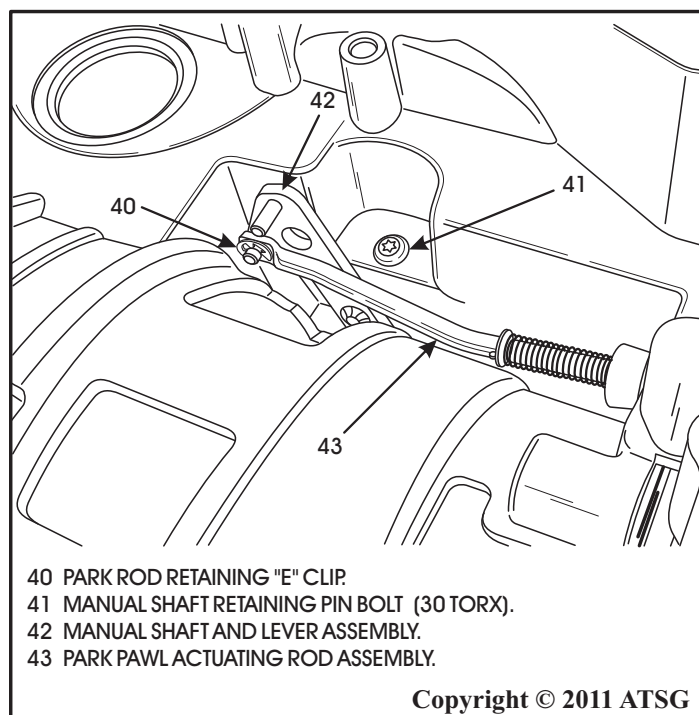

Figure 55
45. Remove the park actuating rod "E" clip from the manual lever, as shown in Figure 55 and 56.
46. Remove the park actuating rod assembly from transmission, as shown in Figure 55 and 56.
47. Remove the manual shaft and lever assembly retaining pin bolt using a 30 Torx bit, as shown in Figure 55 and 56.
48. Remove the manual shaft and lever assembly through the inside of case (See Figure 55 & 56).